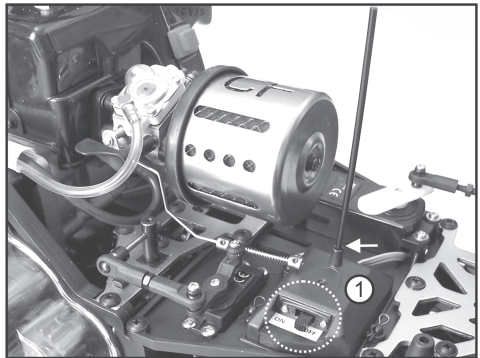

Figure 2
First put the on/off switch for the receiver (see circle in figure 2) in the „OFF“ position (off).
Open the receiver box (figure 2, item 1) by pulling off the three clips.
After closing the receiver box, push the tube into the holder at the top of the receiver box (see arrow in figure 2).
Switch on the receiver system (set switch to „ON“, see circle in figure 2).